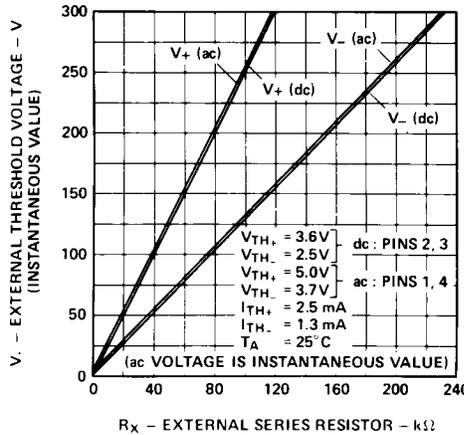
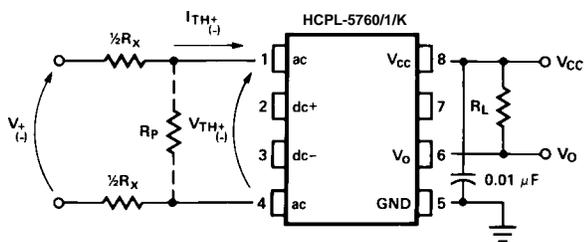

Figure 10. Typical external threshold characteristic, V_{\pm} vs. R_x .
Figure 11. External threshold voltage level selection.
The HCPL-5760, HCPL-5761, HCPL-576K or 5962-89477 optocoupler has internal temperature compensated, predictable voltage and current threshold points which allow selection of an external resistor, R_x , to determine larger external threshold voltage levels. For a desired external threshold voltage, V_{\pm} , a corresponding typical value of R_x can be obtained from Figure 10. Specific calculation of R_x can be obtained from Equation (1) of Figure 11. Specification of both V_+ and V_- voltage threshold levels simultaneously can be obtained by the use of R_x and R_p as shown in Figure 11 and determined by Equations (2) and (3).